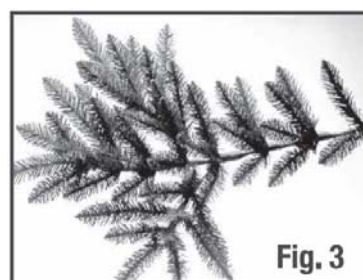

Fig. 3
Insert the Top Tree Section into the Green Plastic opening of the lower Tree assembly. This is the "Pole Cap" which keeps Tree top section securely in place (Figure 3). For larger Trees with middle section carefully insert middle section pole(s) into bottom section pole (Figure 4) as instructed in SPECIAL NOTE ABOUT GLANT TREES below.
- 3.Each individual tip should then be spread out separately.Tips should then be bent slightly upward to add a more natural looking appearance. Figure 3 shows a typical tree Branch after shaping.